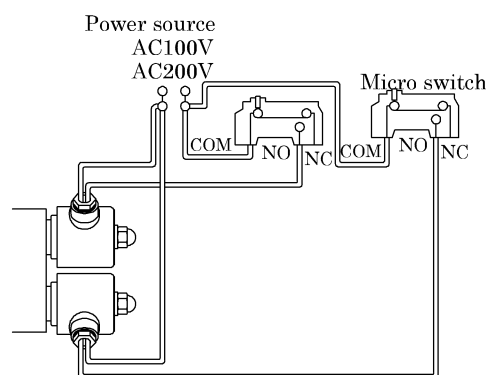

Fig. 2
- Wire it as per illustrated in Fig. 2 above when intending to utilize two micro switches.